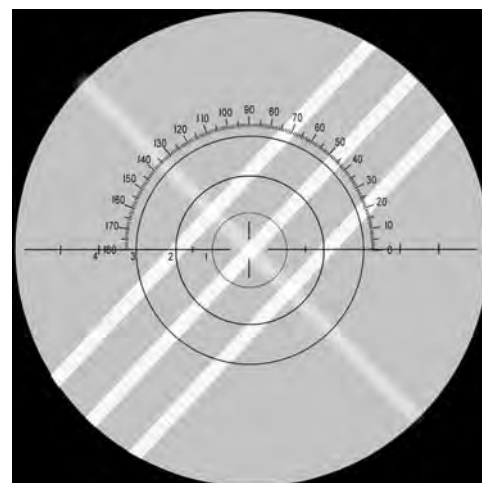

Figure IU-03 Cylinder Power Focused
5. When the Sphere Lines are in focus, turning the Power Wheel only will bring the Cylinder Lines into focus. Refer to Figure IU-03.
4. Rotate the Power Wheel until the Cylinder Lines are in focus. Refer to Figure IU-03.